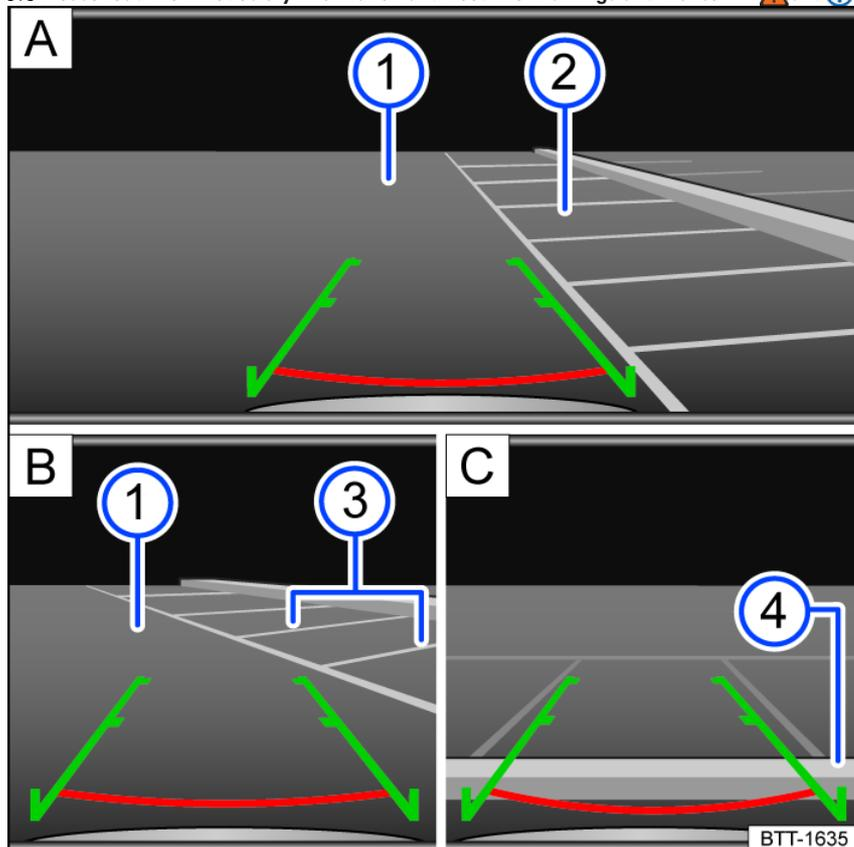

Fig. 144 Infotainment system: Parking with the Rear View Camera system.
- ① Road surface.
- ② Selected parking space.
- ③ Side boundaries of the selected parking space.
- ④ Rear boundary of the parking space.
1. Position your vehicle in front of the parking space *fig. 144* **A** ②.
3. Slowly reverse while steering so that the green side lines line up with the selected parking space. The green lines must line up with the side boundaries of your parking space *fig. 144* **B** ③.
4. Stop when the red horizontal line reaches the rear boundary *fig. 144* **C** ④.